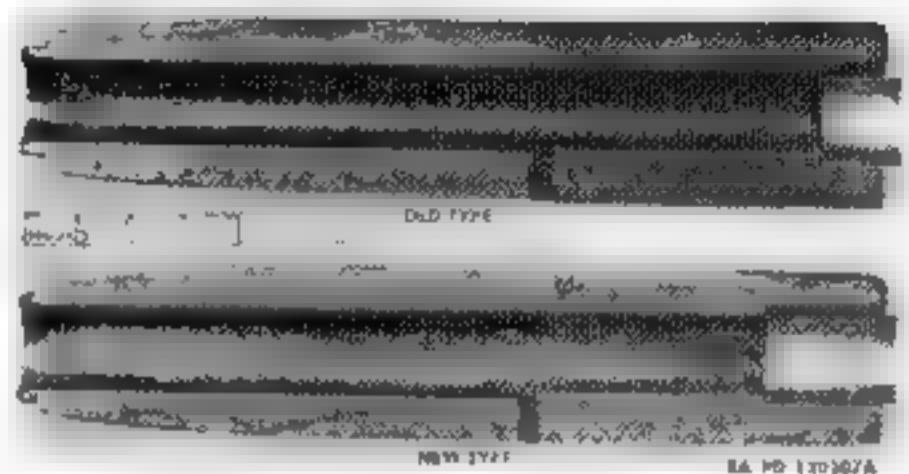

Figure 99. Hand guard assembly 6212602.
h. Hand Guard Liner Check to assure that liner in hand guard assembly is not distorted and is securely fastened to hand guard. Liners with two rivets or with four rivets, if serviceable, may be used on carbines M1 and M1A1. Only the four-rivet type hand guard assembly 6212602 is to be used on the carbines M2 and M3 (Fig. 99).